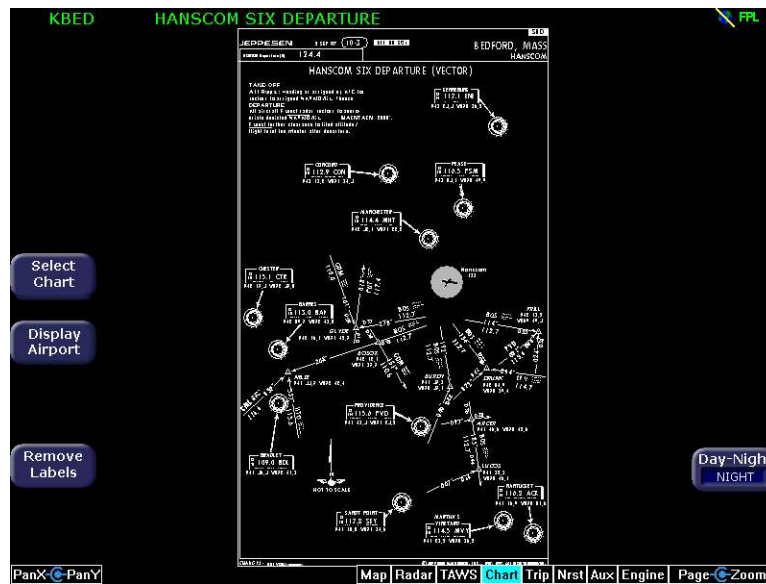

Figure 6.6 Airport Departure Chart (Night View)
- 11) **Day/Night**—Toggles the chart display mode between the Day (black text on a white background) and Night (white text on a black background) modes. Other colors such as water or shaded terrain are also adjusted between Day and Night modes. See Figure 6.6 on page 63 for an example of a chart in Night Mode.
Charts that cannot be split into smaller sections are shown as a complete chart, as shown in Figure 6.6, with the View button not displayed, since only one View type is available.